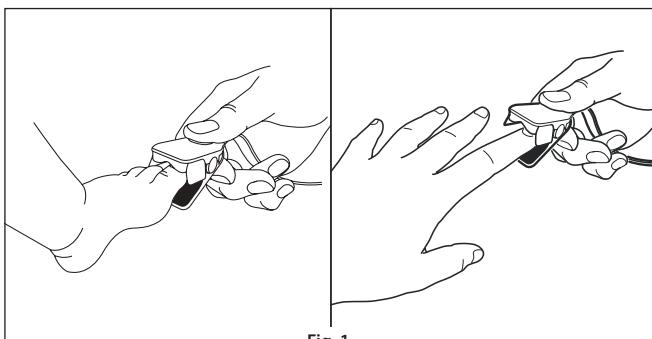

Fig. 1
- Refer to **Fig. 1**. Orient the cable away from the sensor site. Open the sensor by pressing on the sensor indentations.